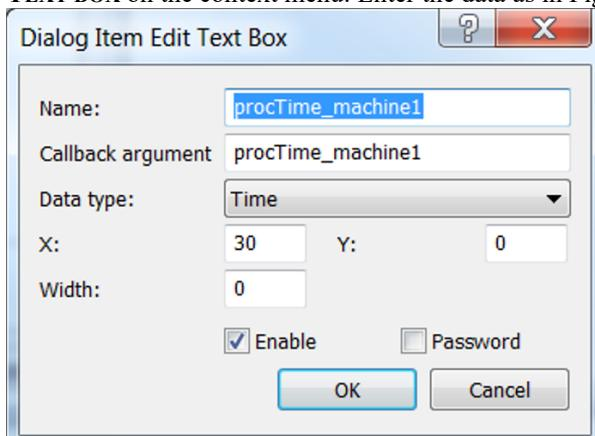

Fig. 2.79 Edit Text Box
2. Click again with the right mouse button on the tab Elements. Select **NEW EDIT TEXT BOX** on the context menu: Enter the data as in Fig. 2.79.